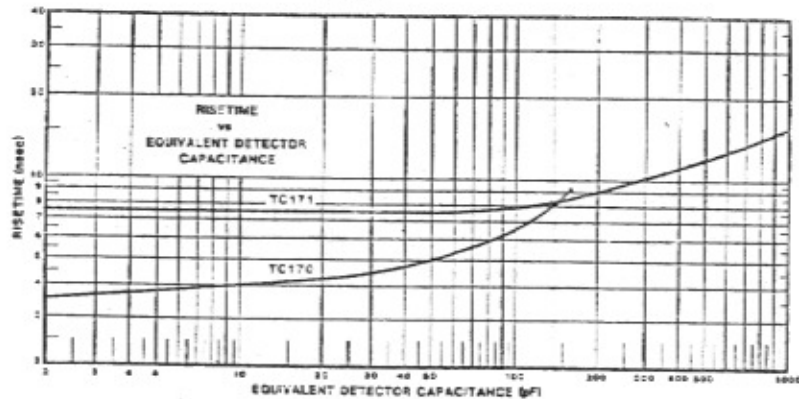
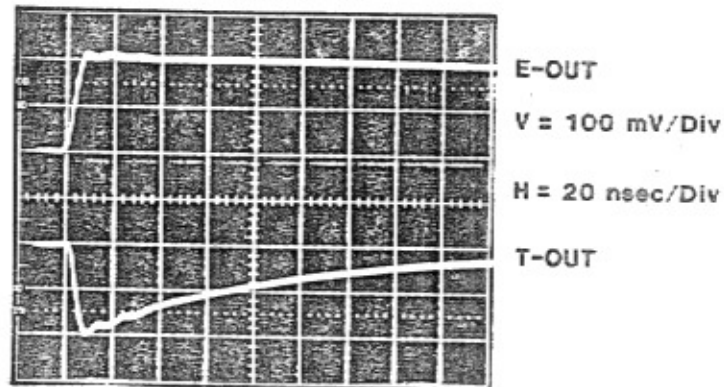

Figure 2.3 Typical Risetime vs Equivalent Detector Capacitance
Figure 2.4 Typical Transient Response, TC 170
(2) Based on a 10 MeV equivalent input, risetime adjustments optimized at each measurement, E and T outputs terminated in 50 ohms, measurements made with an external test-input capacitor. See Figure 2.3 for a graph of the TC 170/TC 171, Risetime as a Function of Equivalent Detector Capacitance. The typical transient response of the TC 170 is shown in Figure 2.4.